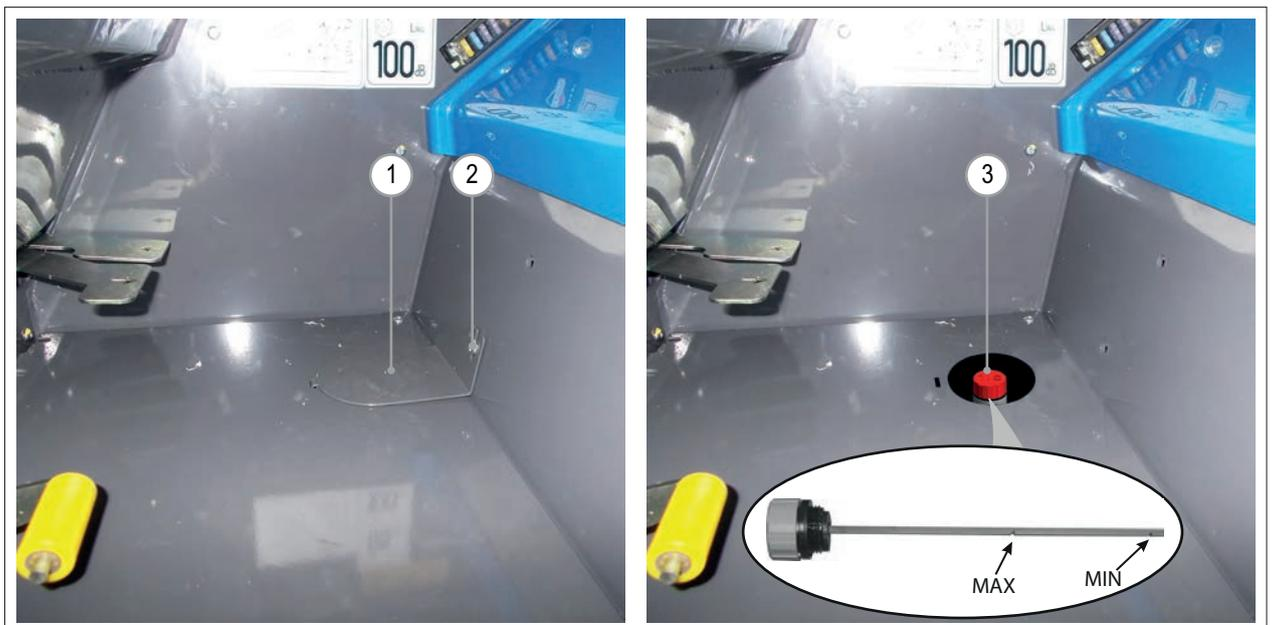

FIG. 34
- 2) Unscrew the screw (FIG. 34 - Ref. 2) to open the cover (FIG. 34 - Ref. 1) located in the footrest.
- 3) Remove the cap of the hydraulic oil tank (FIG. 34 - Ref. 3).